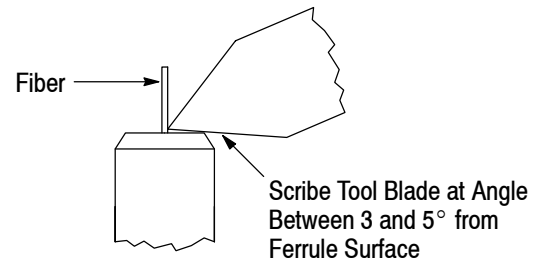

Figure 12
- a. Hold the blade between a 3 and 5° angle (about the diameter of one fiber) from the surface of the ferrule, and gently brush the blade across the fiber. See Figure 12.